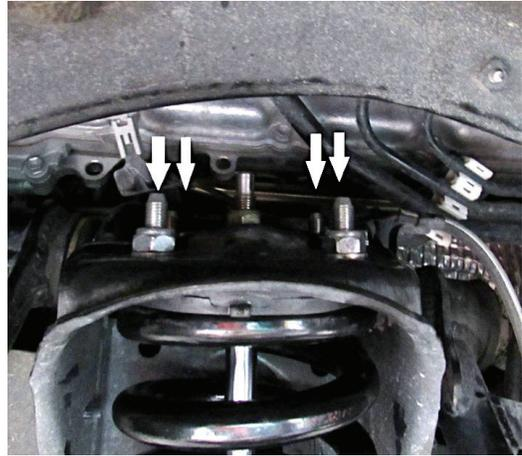

Figure 3: Top mount fastening to frame
- 3d. Remove nuts fastening the shock's top-mount from the frame (Figure 3).
4b. Use a professional spring compressor to compress shock assembly according to its included instructions (Figure 3).